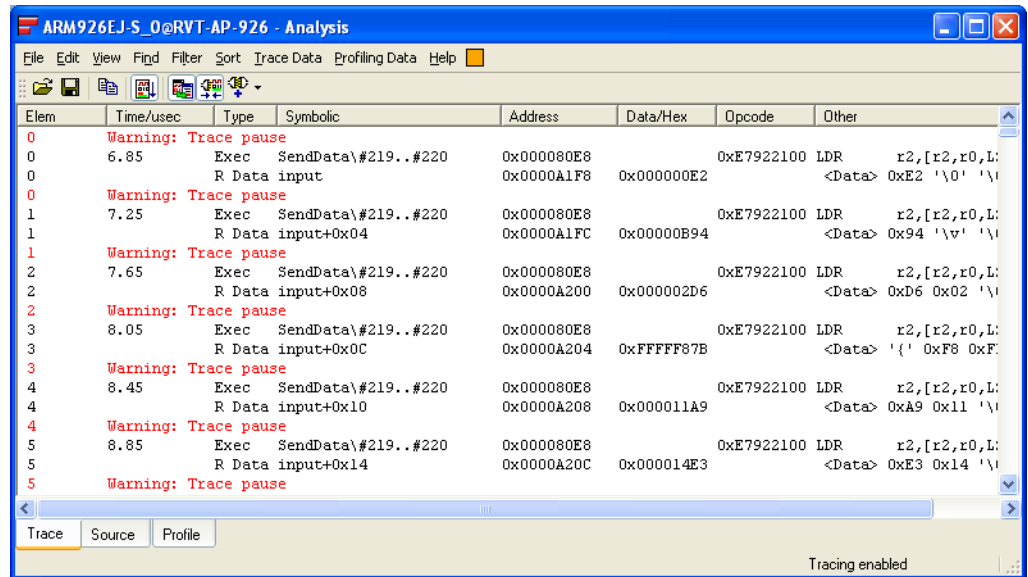

Figure 10-63 Captured trace of data reads from the input[] array
6. After a short time, click **Stop** on the Debug toolbar to stop execution. The captured trace is displayed in the **Trace** tab of the Analysis window. Figure 10-63 shows an example: